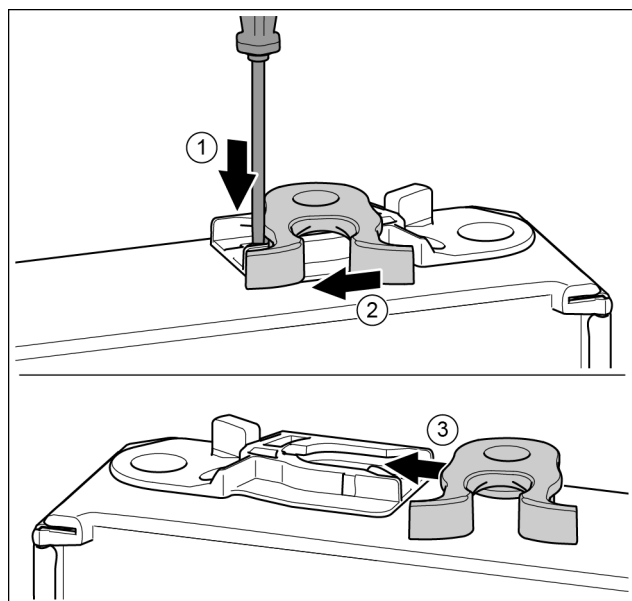

Fig. 18
- Push the tab downwards with a slotted screwdriver. *Fig. 18 (1)*
- Pull the door latch out of the guide. *Fig. 18 (2)*
- Push the door latch into the guide on the other side. *Fig. 18 (3)*